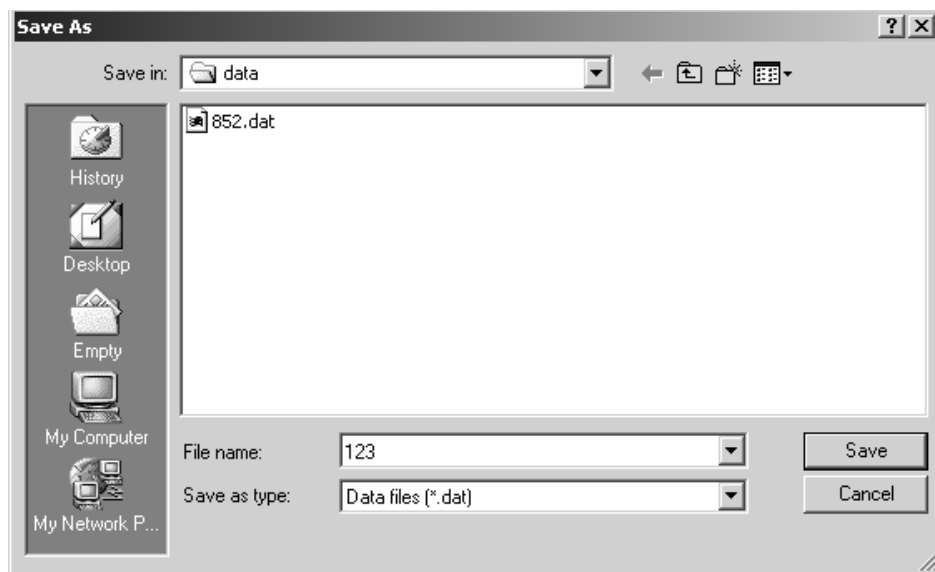

Figure 4.4. The window of Save
- 2) Select “File” of the main menu → Save Graph as BMP to open the window of Save Figure 4.4.